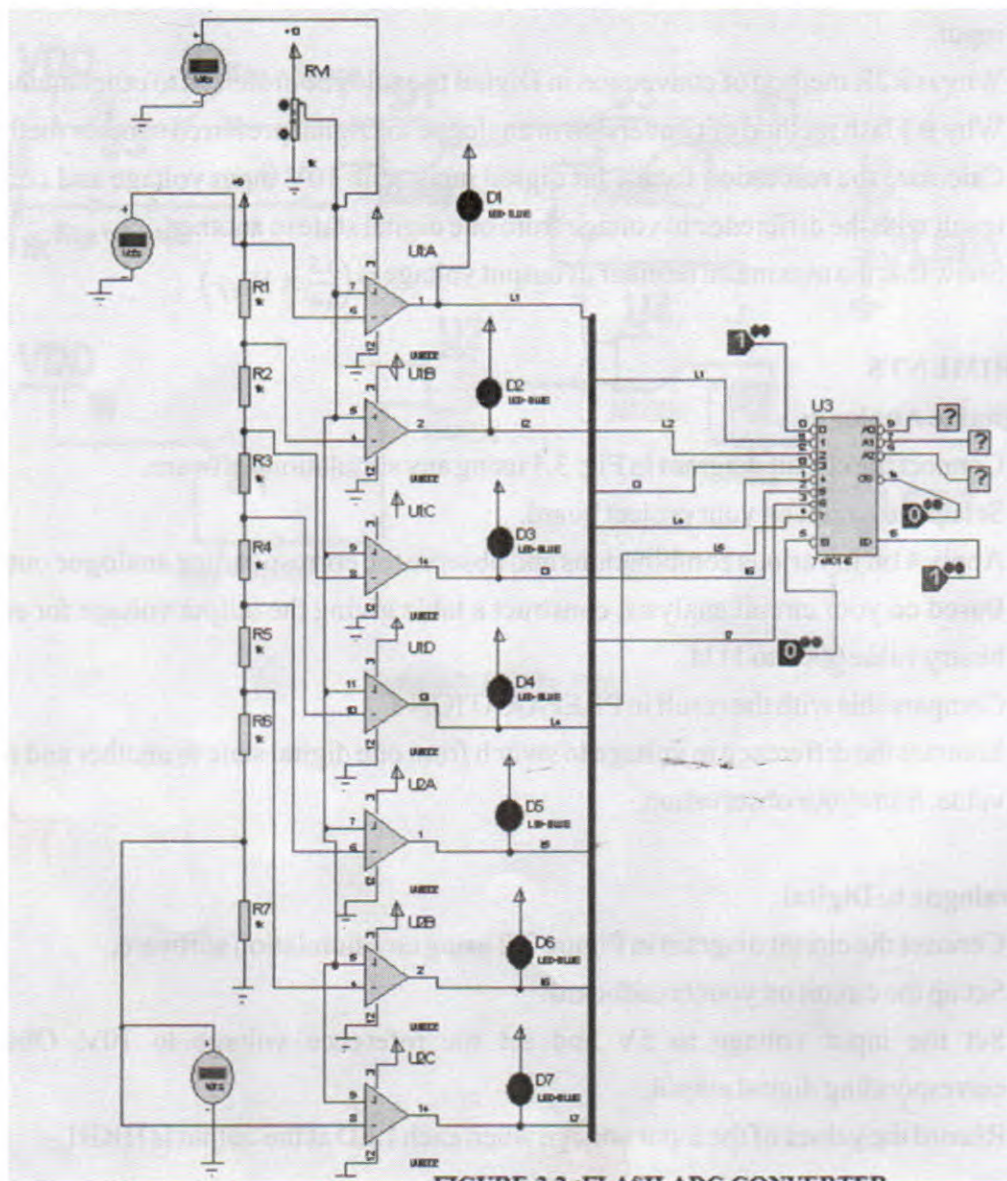

Figure 3.2: Analog to Digital Converter
1. Connect the circuit diagram in Figure 3.2 using any simulation software.